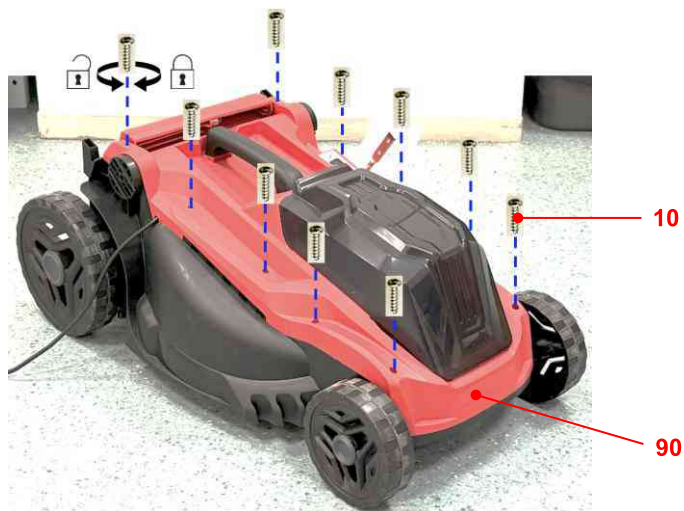

Fig. 5
2. Remove the 10 self-tapping screws ST4.2*16-F (10) with a Philips #2 screwdriver (Fig. 5). Lift and remove the top housing (90).